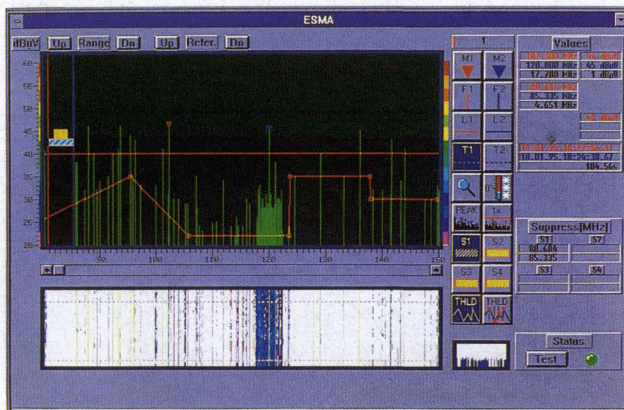

FIG 2
- In overview mode all detected emissions are continuously scanned and optionally recorded in the form of occupancy patterns or scenarios (FIG 2).